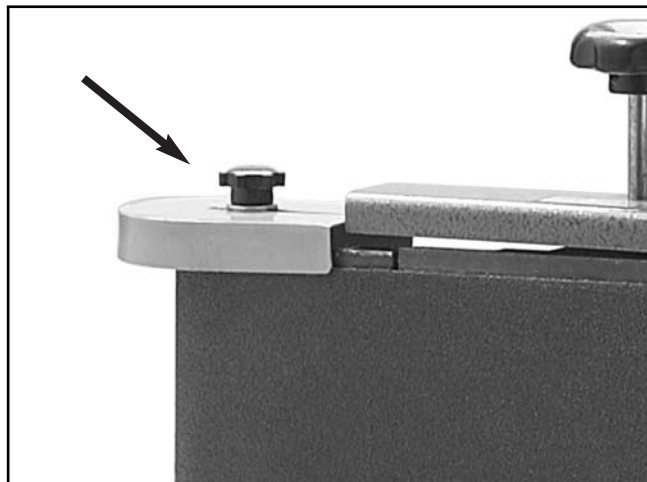

Figure 10. Idler roller guard installed and secured in position with small star knob.
1. Place the guard on top of the idler roller and secure it in position with the included small star knob, as shown in **Figure 10**.